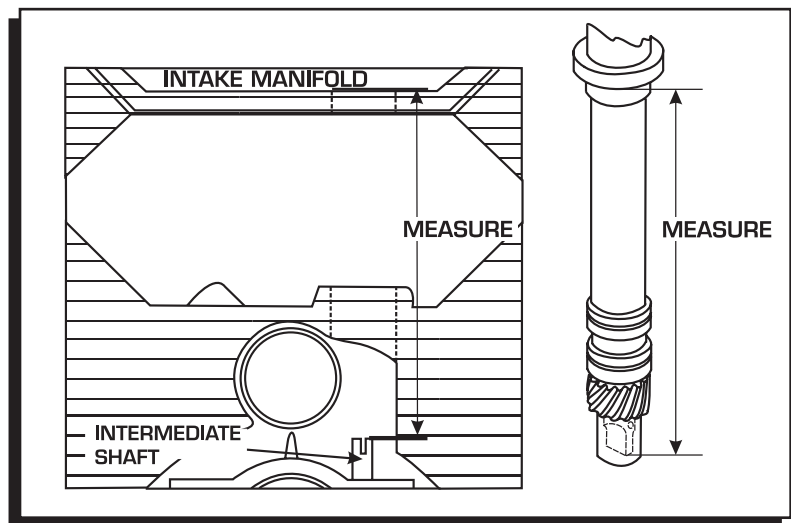

**Figure 8 Measuring Oil Pump Shaft Overlap.**
1. Measure the distance between the base of the slip collar to the tip of the distributor shaft (Figure 8).
2. Using a straight edge, measure the distance from the intake manifold distributor flange to the top of the oil pump intermediate shaft (Figure 8).